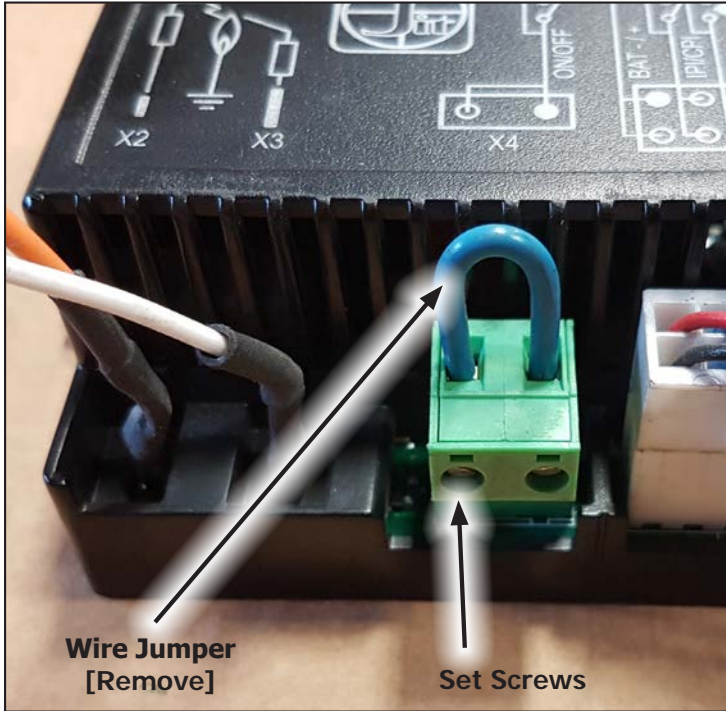

Figure 50: ON/OFF Terminal Block on IFC
Step 3: Remove the ON/OFF terminal block from the X4 port on the IFC (Figure 50).
2. Disconnect the spill switch wires from the IFC (see Figures 50 & 51).